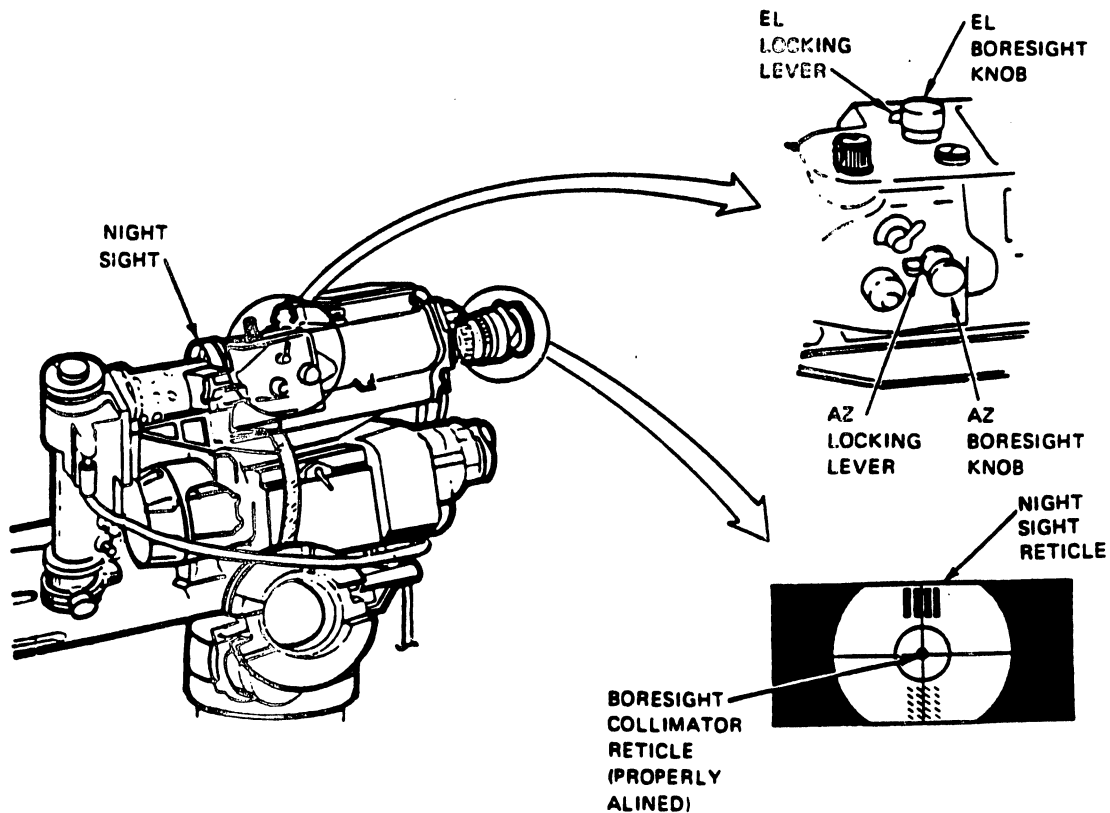

Fig 3-28. Night sight, AZ/EL Adjustment knobs boresight collimator reticle.
Step 5. Move the AZ and EL locking levers fully counterclockwise. Look into the eyepiece and adjust the AZ and EL boresight knobs on the night sight until the reticles are aligned (fig 3-28).